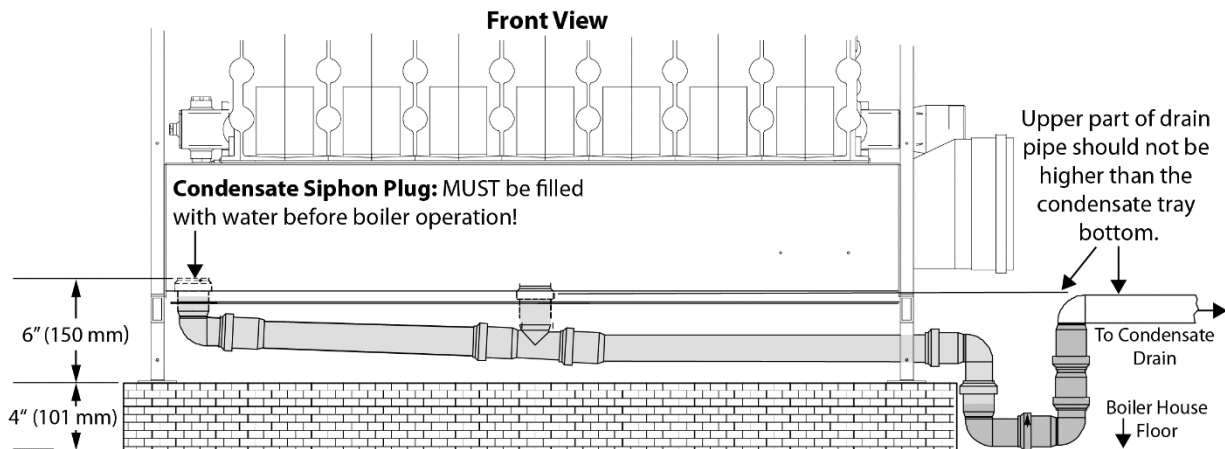

Figure 4-20: MODULUX EXT Condensate Piping
The liquid column, inside the condensate siphon, (see Condensate Siphon Plug in Figure 4-20) needs to be filled with water after installation. The minimum height of the water in the column, when all the fans are in operation, must be at least 25 mm (1 in.).
If it is not possible to use a 4" (101mm) base or housekeeping pad on which to place the boiler, install the boiler on the floor and provide a well or trough (minimum of 4" - 101 mm deep) in which to lodge the U of the condensate piping. See Figure 4-20.
- Before commissioning the boiler, fill the condensate drain pipe with water, at the dedicated filling-up plug. See Figure 4-20.